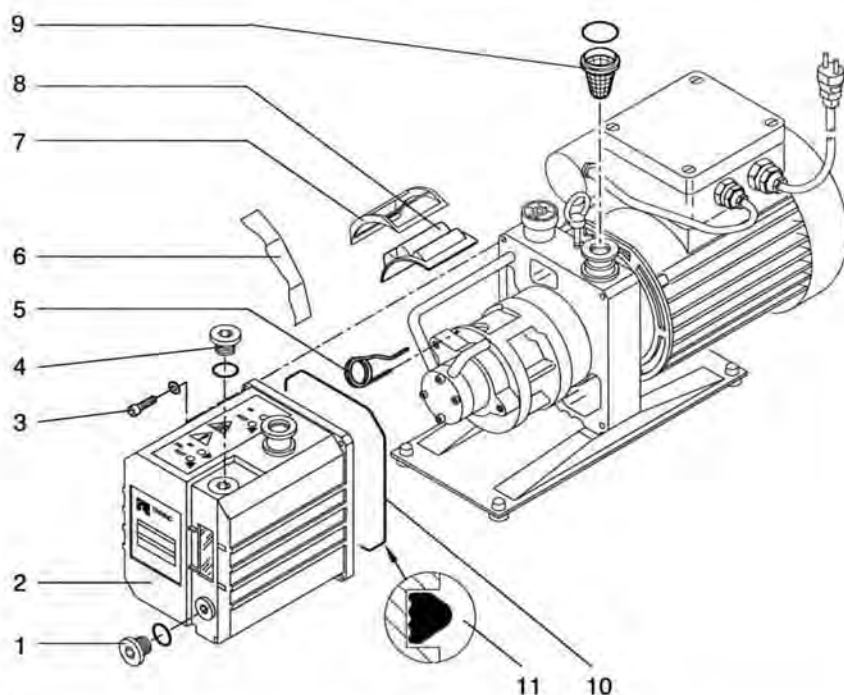

Fig. 7 Removing and inserting the internal demister
**Key to Fig. 7**
**Caution** Make sure to fit the gasket for the oil box (7/10) with the flat side in the groove, see item 11 in Fig. 7.